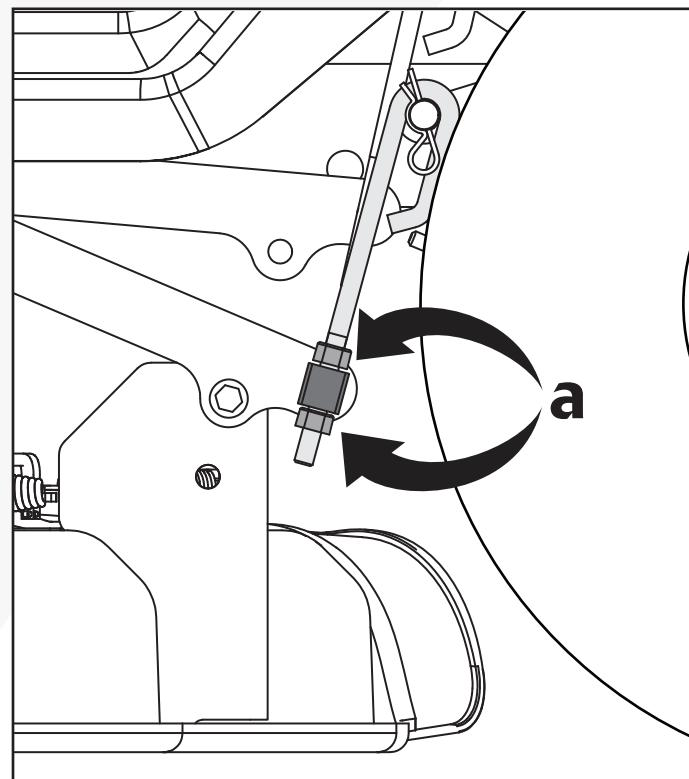

Fig. 26
3. Turn the adjustment nuts up to raise or down to lower the left side of the cutting deck. (a, Fig. 26)